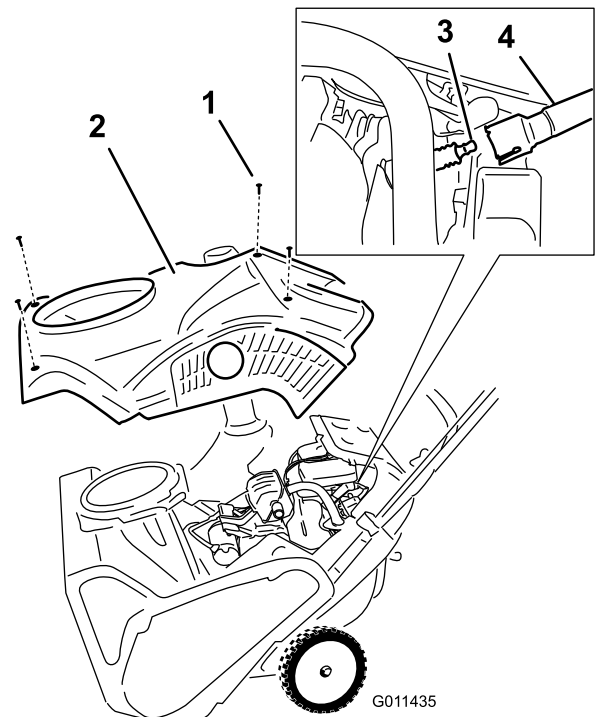

Figure 26
4. Remove the 4 screws that secure the shroud (**Figure 26**).
1. Screw (4)
6. Remove the shroud (**Figure 26**).